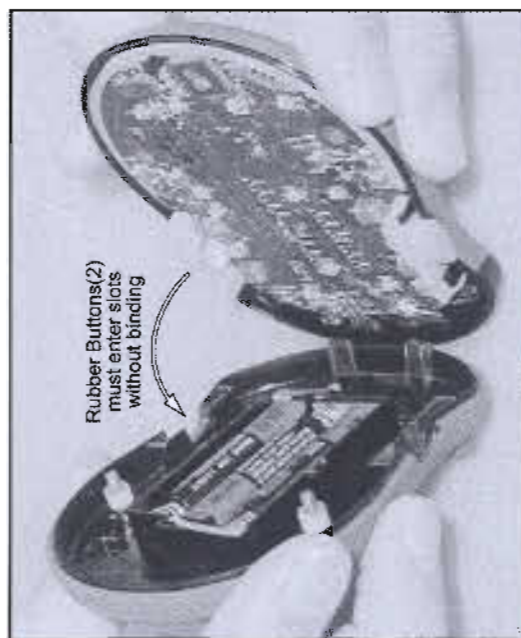

Figure 4-4 Proper orientation of two halves of remote control
**NOTE: Observe rubber buttons shown in Figure 4-4 while putting two halves together. The rubber buttons must slide into slots in other half of remote without binding.**